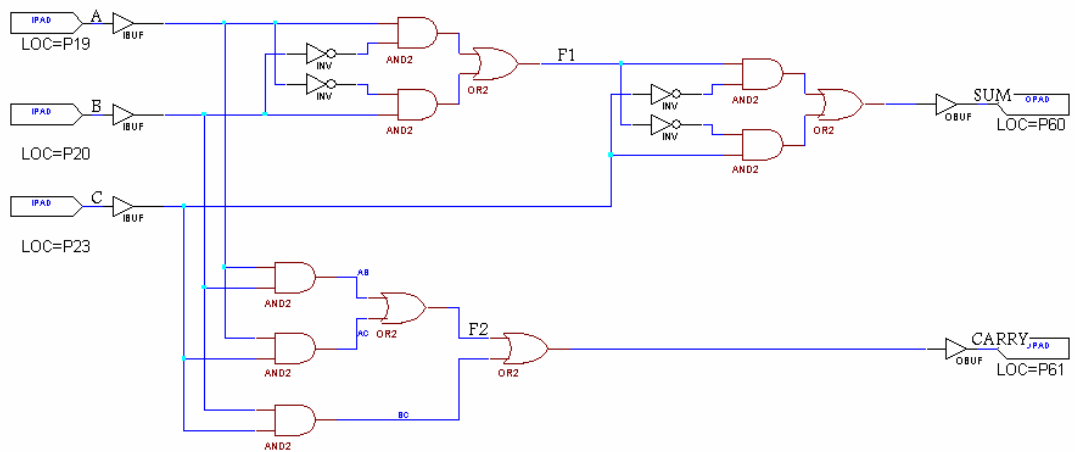

Figure 2.1: Schematic Diagram
- Find the truth table for the circuit given in Figure 2.1 for the primary outputs and at the wires F1 and F2.
- Add the symbols for the gates needed for the circuit in Figure 2.1
- Name the input and output nets. Your schematic would look like Figure 2.1